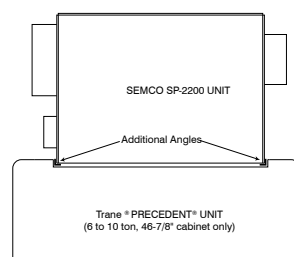

FIGURE 19 Plan view showing additional angles.
- 8) Rotate the bracket so that the short leg is inside the opening flange of the Trane® Precedent® and the long leg is against the fixed bracket on the FläktGroup SEMCO SP. Tighten screws to hold the FläktGroup SEMCO SP in place. **NOTE:** The FläktGroup SEMCO SP-2200 has additional angles that should be installed between the brackets and the Trane® Precedent® corner post. These angles are required on the 6-10 ton Trane® Precedent® units with the 46-7/8" cabinet only. The angles should be installed so that one leg faces the SP. (See **FIGURE 19**)